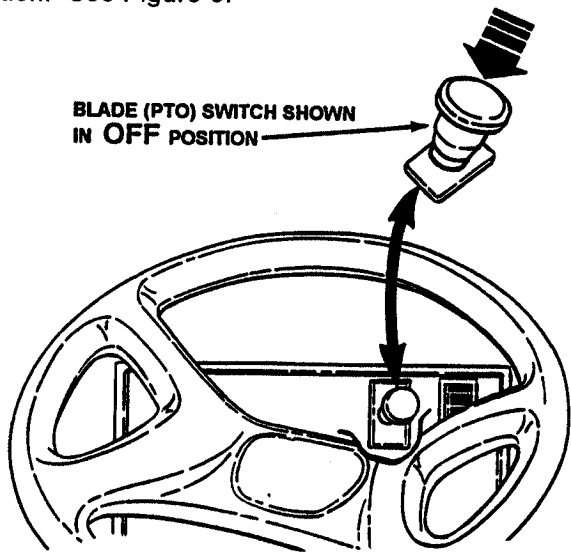

FIGURE 6
1. Push Blade (PTO) Switch down to the OFF position. See Figure 6.